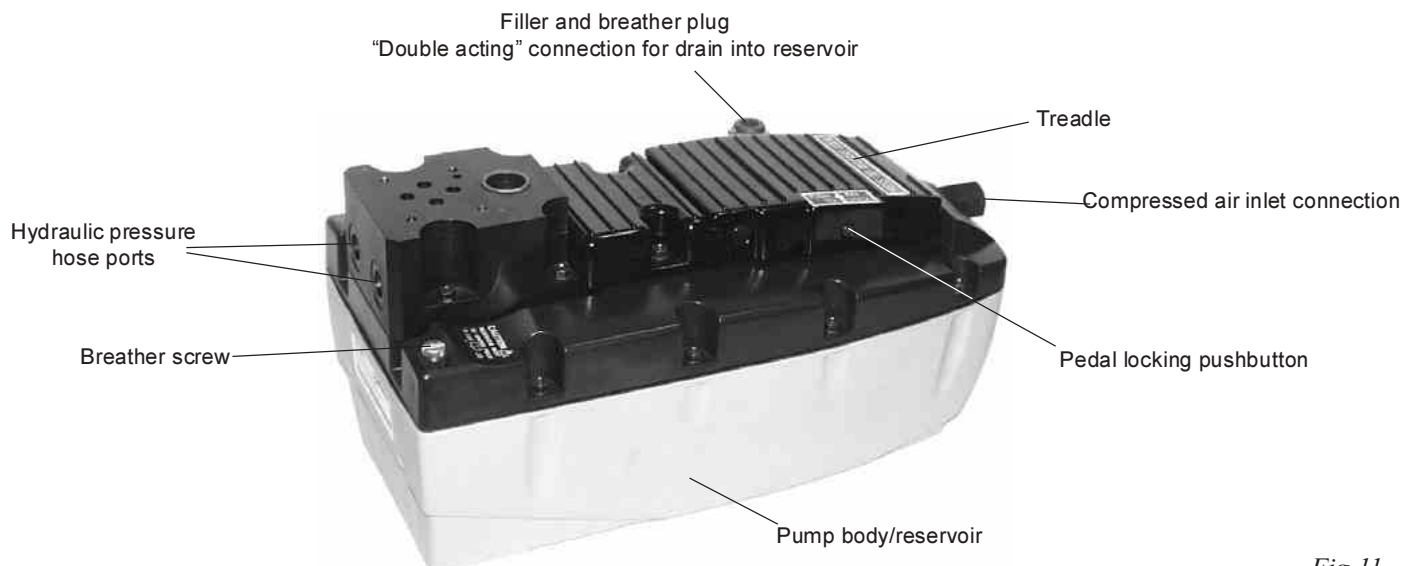

Fig.11
Figure 11 shows the components of the pump.
Fig.11 shows the ZE22107/A pump (reservoir 2.4 litre)
- Use a slotted tip screwdriver to remove the filler plug (fig.11, page 6)